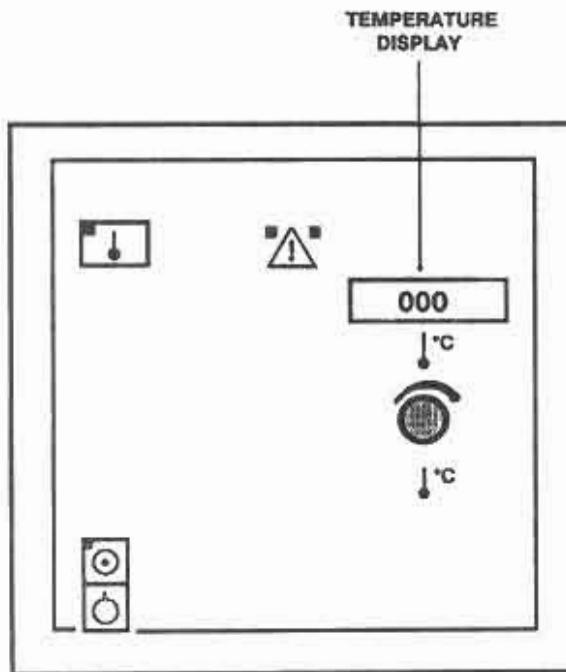

Figure 3-11. Temperature sensor calibration display (000).
- g. Adjust resistor "R41" until the temperature display indicates "000" (fig 3-11).